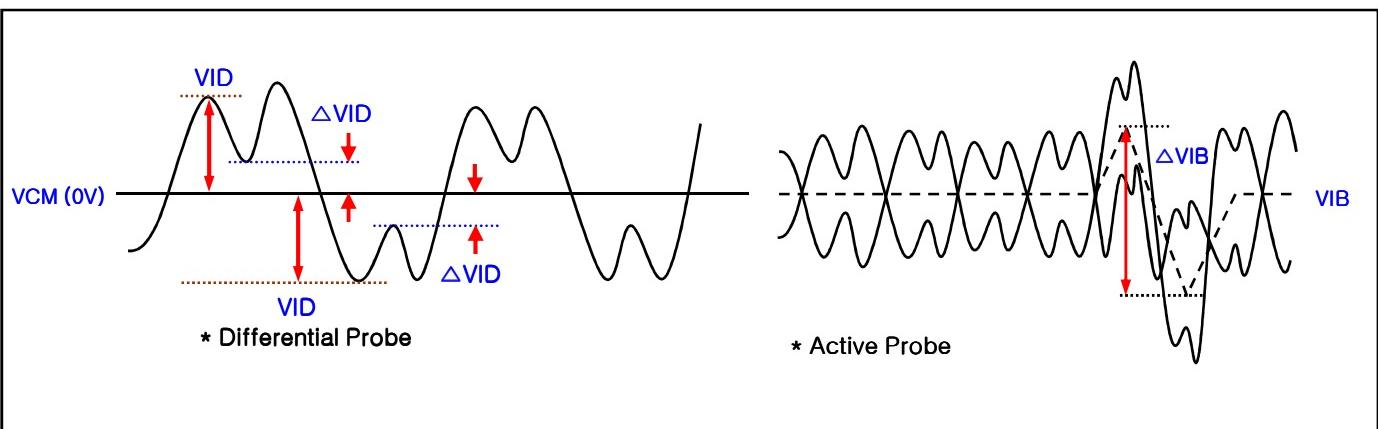

FIG. 2 Description of VID, ΔVID , ΔVIB , VIB
5. In case of mini-LVDS signal spec, refer to Fig 2 for the more detail.